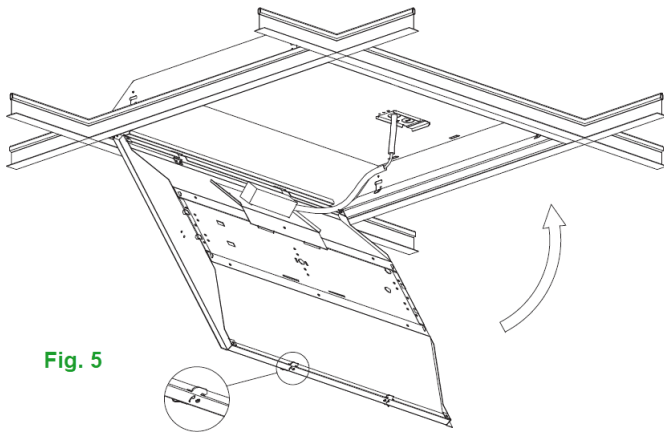

Fig. 5
- Close the retrofit fixture and secure the latch. Notice the fixture should be completely secure. (Fig. 5)